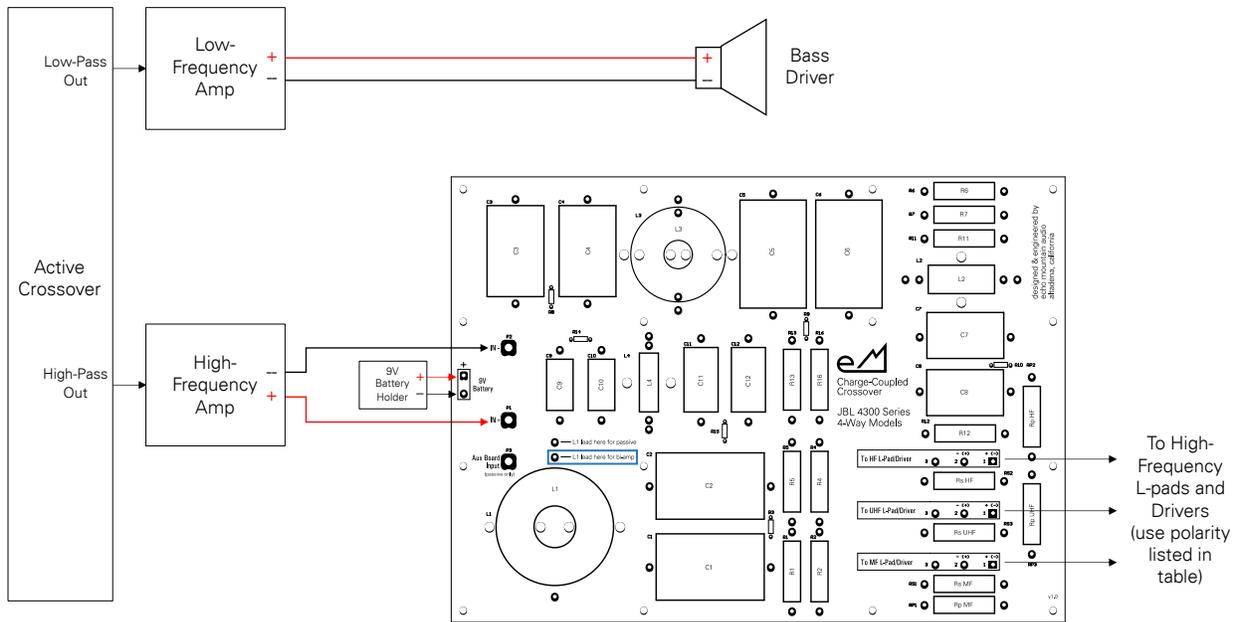
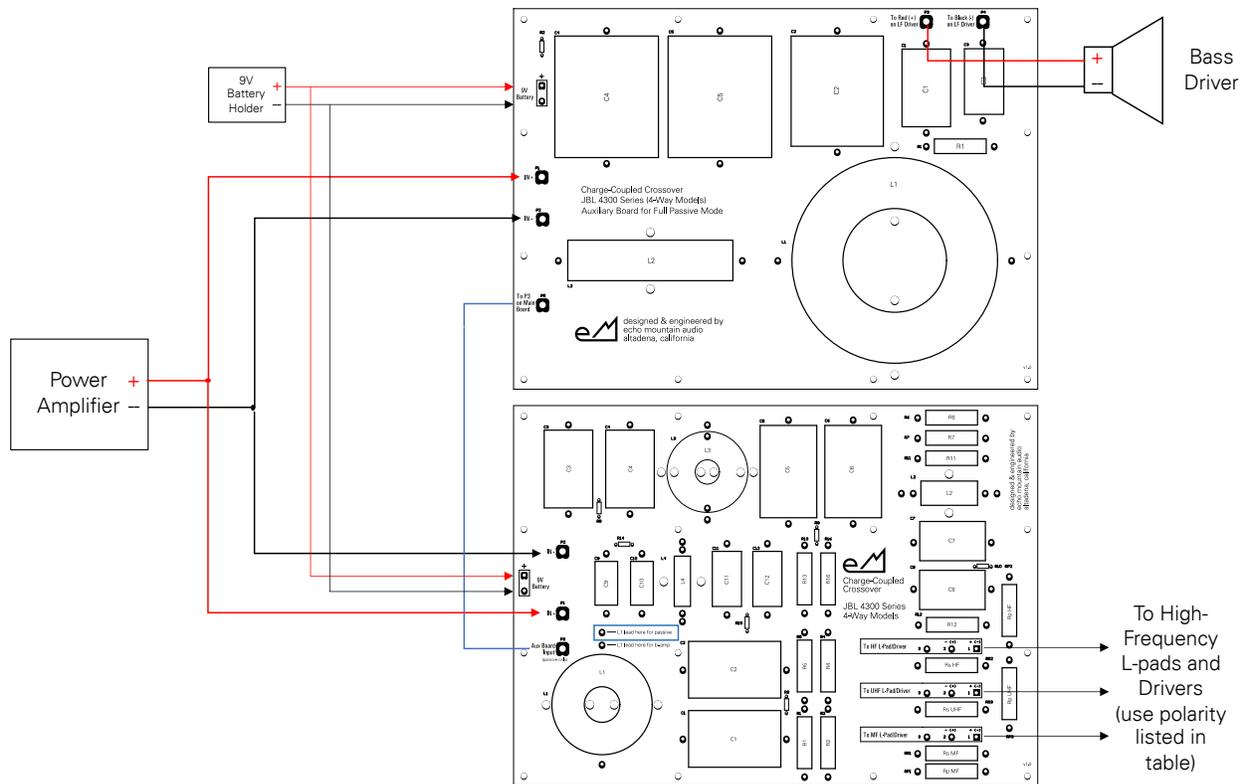

Figure 3: Bi-amp configuration diagram (single channel shown)
Figure 5: Full passive configuration diagram (single channel shown)
2. If you are using the boards in a bi-amp configuration, be sure to insert the lead on the top side of inductor L1 into the plated through-hole (PTH) marked "L1 lead here for bi-amp." For full passive configurations, insert the lead on the top side of L1 into the PTH marked "L1 lead here for passive." These two features of the board are outlined in blue in Figure 3 and Figure 5.
2. Solder speaker wire to the "IN+" and "IN-" PCB terminals, and connect these wires to the positive and negative output terminals of the amplifier (actual cable path is user's choice – through connectors to speaker cables, etc.). This amplifier will either be the high-frequency amp in a bi-amped configuration (see Figure 3), or the single amp in a full passive configuration (see Figure 5).
- In the case of a bi-amp system, the crossover boards have now been fully integrated in the system. The low-frequency amp can be connected to the bass driver as shown in Figure 3. If you are setting up a full passive system, proceed to the next section.